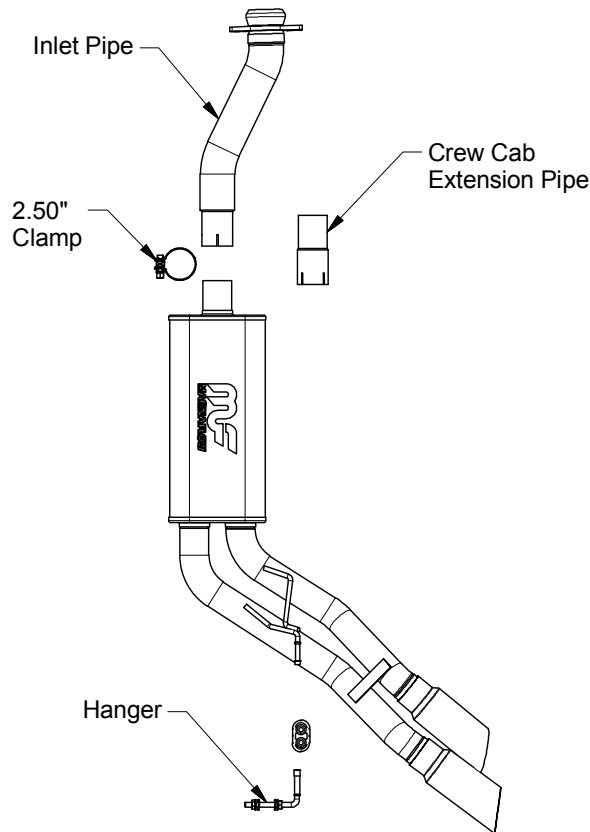

Fig 1.
**Step 2:** Install the new inlet pipe using the OEM fasteners. If you have a Crew Cab truck install the Extension Pipe using the supplied 2.50" Clamp. Install the threaded hanger and rubber insulator as shown in Fig 1, then Install the Muffler Assembly fitting the welded hangers into the rubber insulator and fasten it to the inlet pipe using the supplied 2.50" clamp. Leave all clamps and fasteners loose for final adjustment of the complete system. .